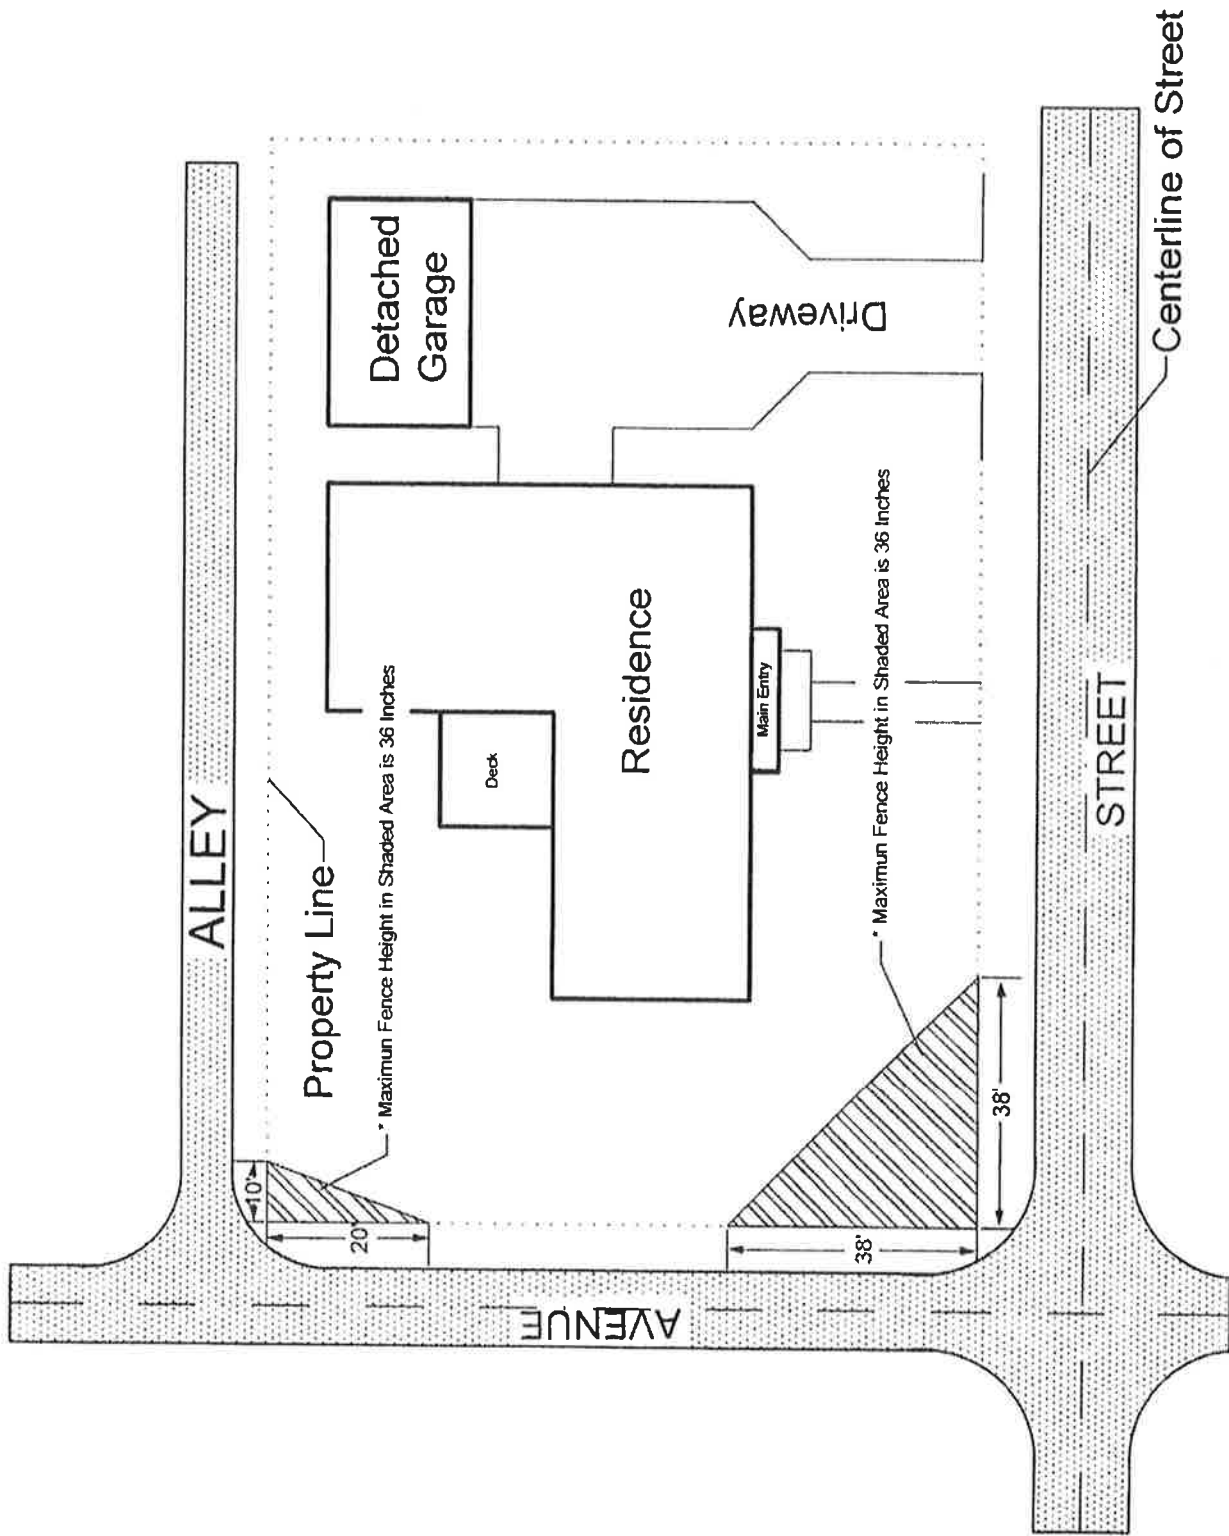

Figure C3-1 (Clear Vision Setbacks - For Uncontrolled Intersections)
- Setbacks required: All fences, walls or hedges up to three (3) feet in height may be erected or maintained anywhere on a property, even in the required clear vision zones so long as it meets all requirements of the fencing, zoning and traffic sections of the ordinances.
- Any fence, wall or hedge in excess of three (3) feet can be erected or maintained anywhere on a property so long as it meets all the yard setback requirements and is not located in the clear vision zones as displayed in figures C3-1, C3-2, or C3-3.